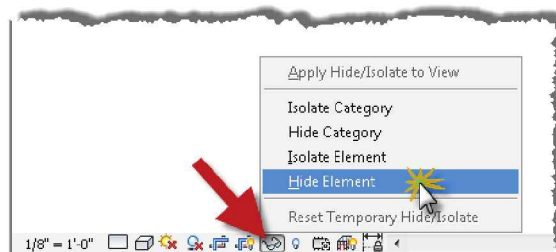

FIGURE 11-3.3 Hide/Isolate pop-up menu
You should see the menu shown in Figure 11-3.3 show up next to the *Temporary Hide/Isolate* icon. This allows you to isolate an object so it is the only thing on the screen, or hide it so the object is temporarily invisible.
10. Click **Hide Element** in the menu (Figure 11-3.3).
12. Click the *Hide/Isolate* icon and then select **Reset Temporary Hide/Isolate** from the pop-up menu. (See Figure 11-3.3.)